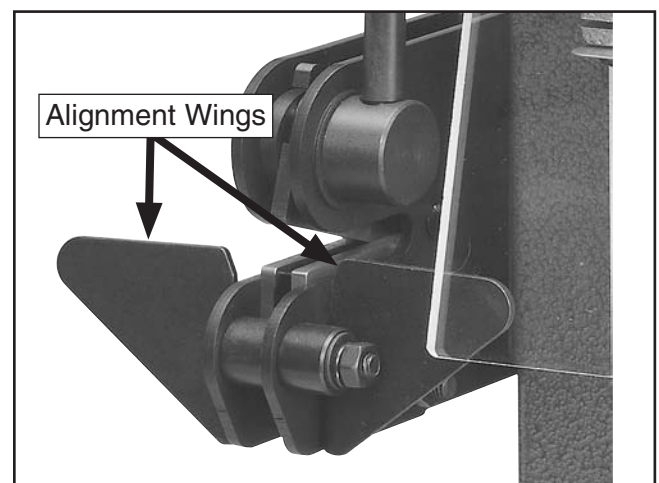

Figure 7. Alignment wings installed.
2. Use the fasteners removed in **Step 1** to attach the alignment wings in the positions shown in **Figure 7**.